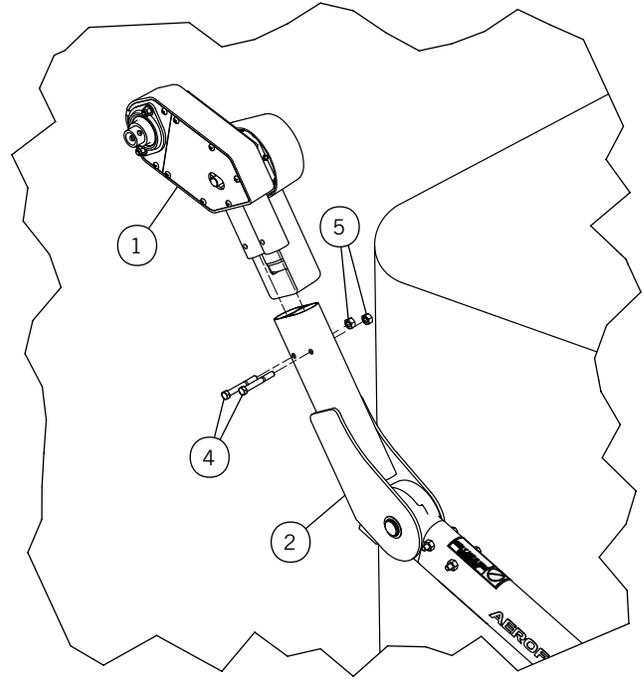

Figure 33-1
- 1) **Figure 33-1.** Attach motor to front arm with 3/8" bolts and lock nuts. Make sure to align marker stickers on motor and arm before securing.